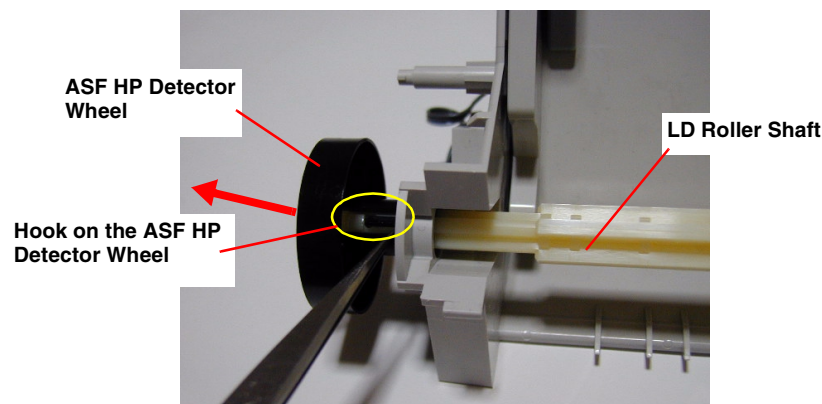

Figure 4-34.
- 4) Raise the Paper Return Lever on the right side, and slide the LD Roller Shaft to the left. Release the hook securing the ASF HP Detection Wheel, and remove the Wheel. Slide the LD Roller Shaft to the right, and remove it from the ASF frame. Refer to Figure 4-34.